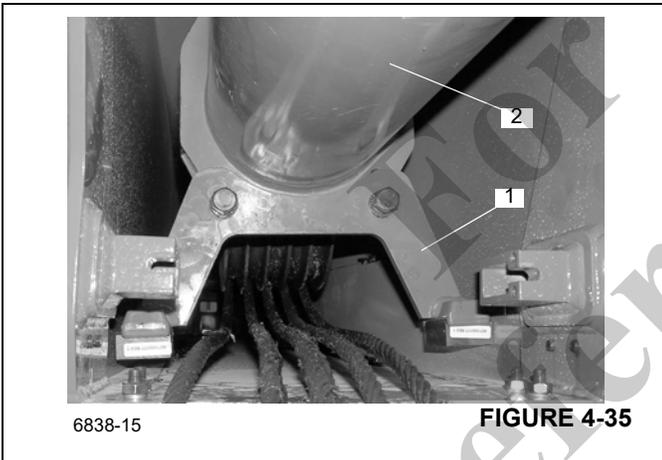

FIGURE 4-35
4. After supporting the weight of the telescope cylinder, remove the two bolts securing the cylinder foot weldment (1), (Figure 4-35) to the telescope cylinder (2), (Figure 4-35). Remove the foot weldment.